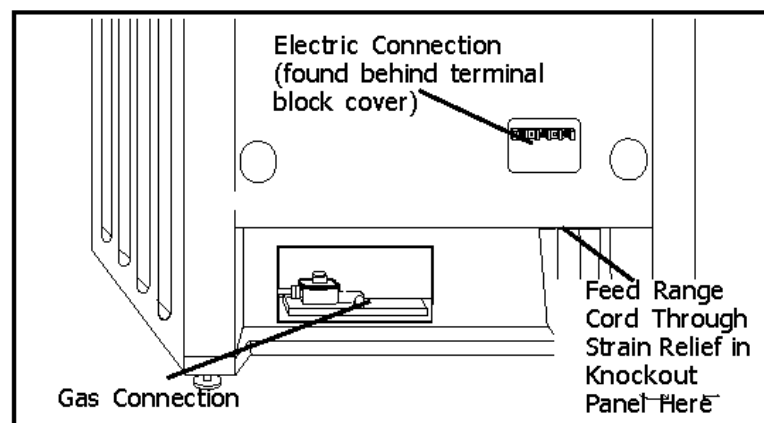

Figure 4
The power supply shall be connected to the range terminal block compartment located near the bottom of the back panel (See Figure 4, at right). It is accessible by removing the terminal block cover.
Place strain relief in knockout below terminal block (See Figure 4 below). Feed range cord through hole and strain relief up to terminal block. Allow for slack in the cord between the strain relief and terminal block. Once cord length/ slack has been adjusted, attach strain relief per instructions included with strain relief. Connect wiring as described below and on next page.
Assemble LP Cooktop Orifices. Place in cooktop exactly as layed out in the cover of this manual (also shown in Figure 3). If the orifices become separated from the cover, placement can be determined by matching the number stamped into the orifice with the placement specifications displayed in Figure 4. Place the new orifice into the socket then insert each orifice into its respective threaded hole in the jet holder. Tighten until the orifice stops turning. DO NOT OVER TIGHTEN.
3. Insert flat head screwdriver into shaft and turn bypass screw clockwise until it stops turning (See Figure 4). **DO NOT OVER TIGHTEN.** Replace knobs, springs and bezels.